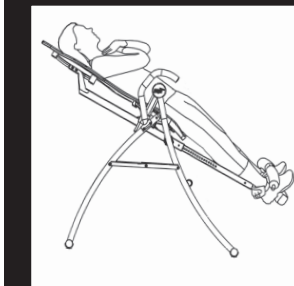

Fig. 11
- If the table comes to rest with your feet lifted a few inches off the A-frame, then you have found the correct balance setting (Figure 11).